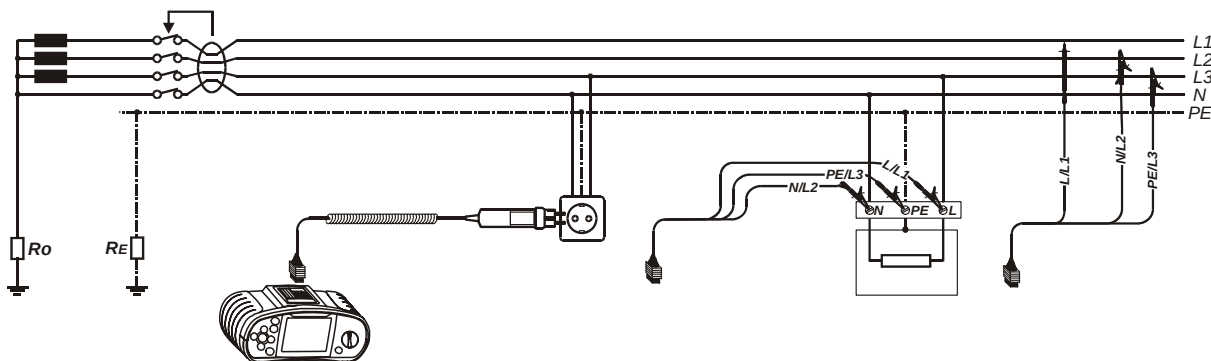

Figure 5.40: Connection diagram
Step 2 Connect test cable to the EasiPLUS instrument and follow the connection diagram shown in figure 5.40 to perform a voltage and frequency measurement.